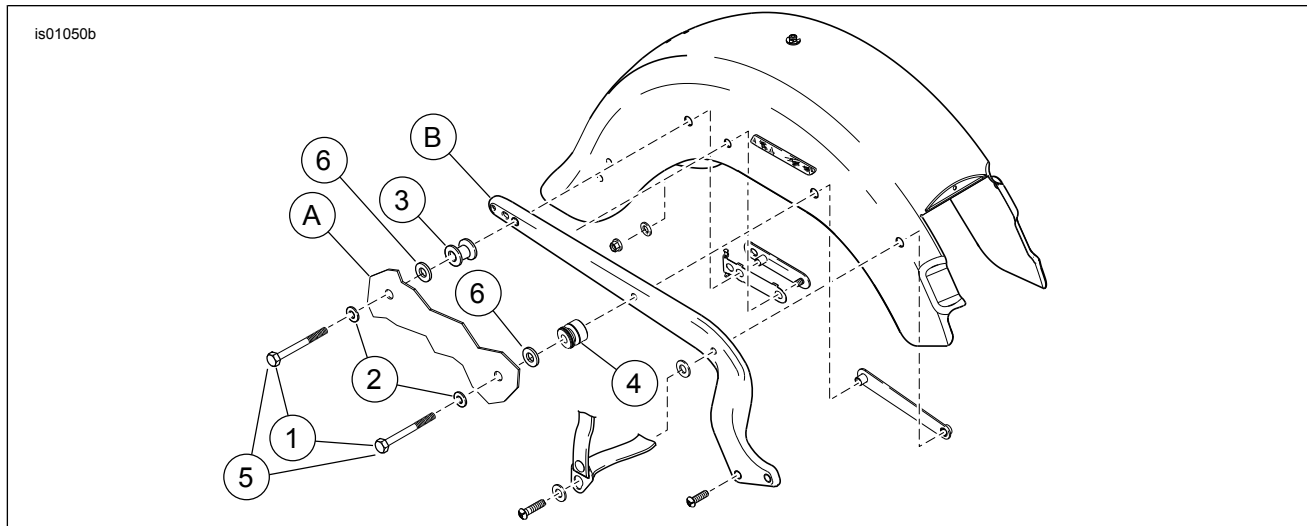
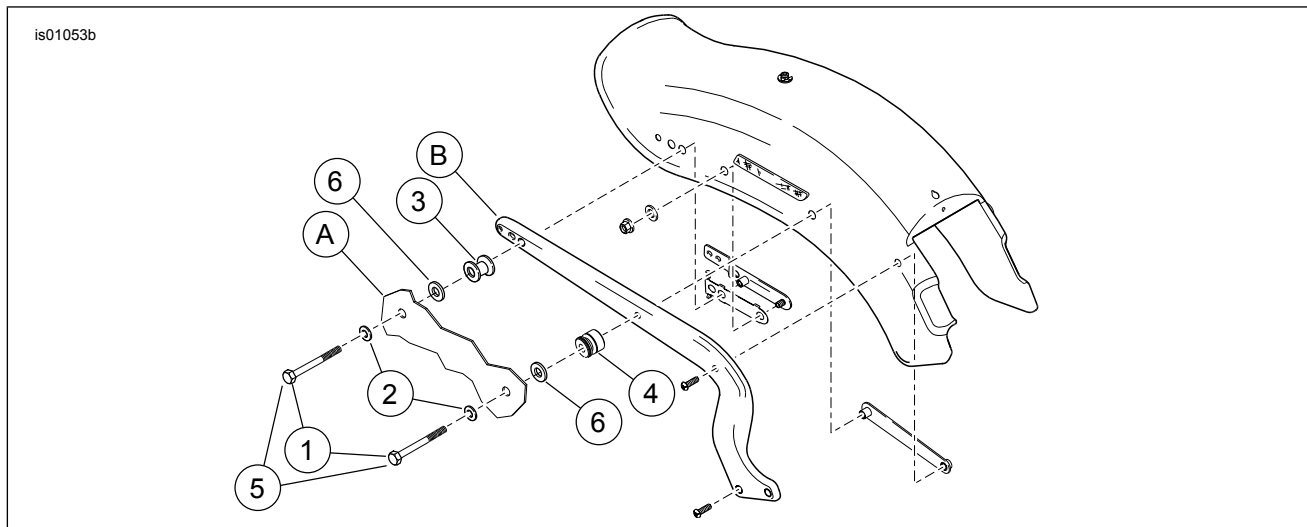

Figure 1. Service Parts for Softail Docking Hardware Kit
Figure 2. Service Parts for Softail Docking Hardware Kit
See Figure 1, Figure 2 and Table 2.
See Figure 1 and Figure 2. The docking width of the rear docking point (3) is wider than that of the front docking point (4).
- Place one washer (2) on each of two screws (1).
- Place the front docking point (4) all the way onto the front screw (1), with the countersunk end of the docking point facing the fender support.
- Place the rear docking point (3) all the way onto the rear screw (1), with the countersunk end of the rear docking point facing the fender support.